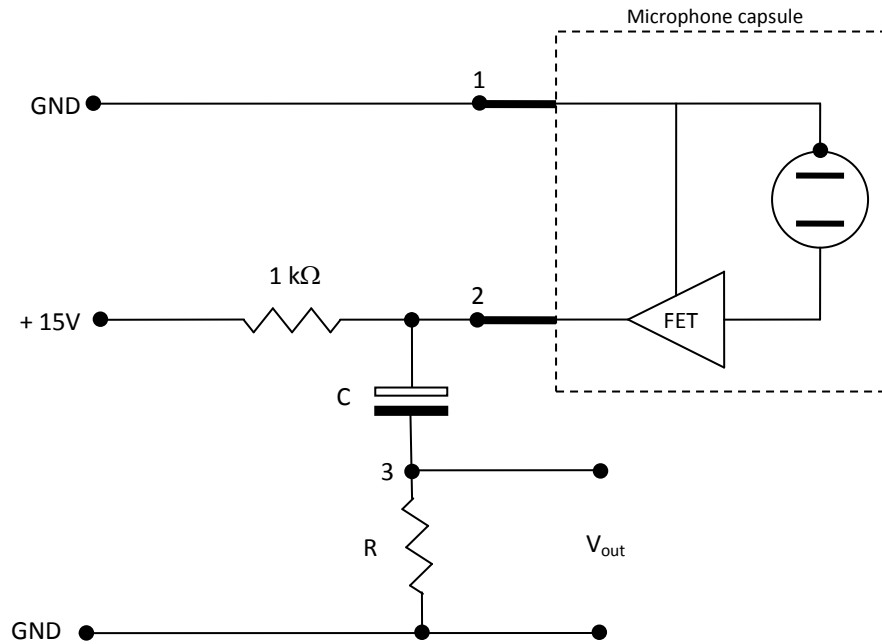
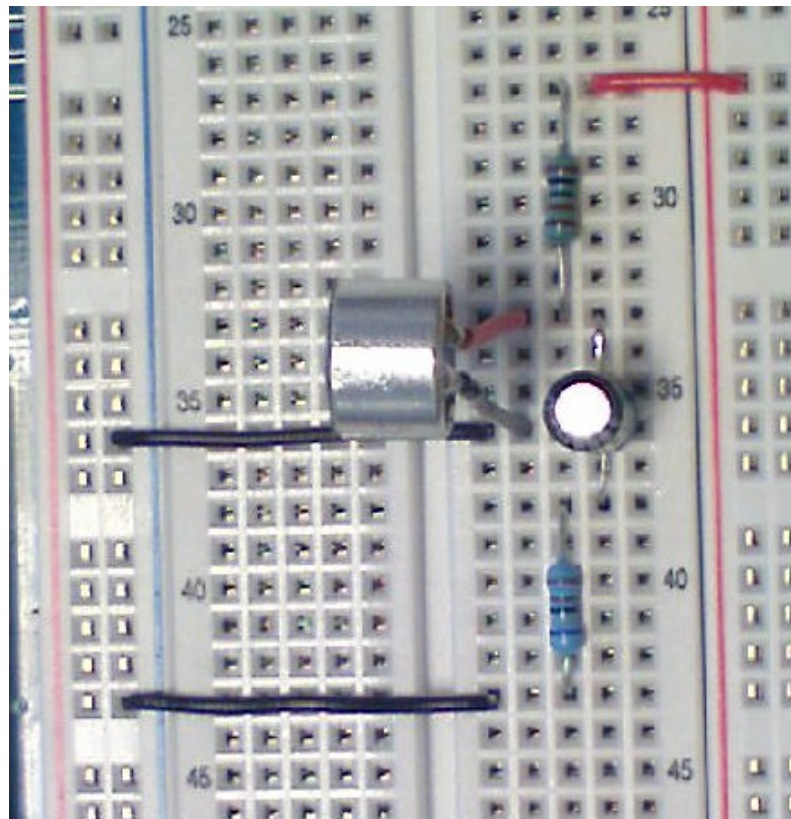

Figure 3-3, Electret Microphone with Output Filter - Circuit Diagram
Figure 3-4, Electret Microphone with Output Filter - Circuit Implementation
- Modify the circuit according to Figure 3-3 and Figure 3-4. The higher frequencies will be available across the resistor. You are using the resistor and capacitor in series as a high-pass filter.